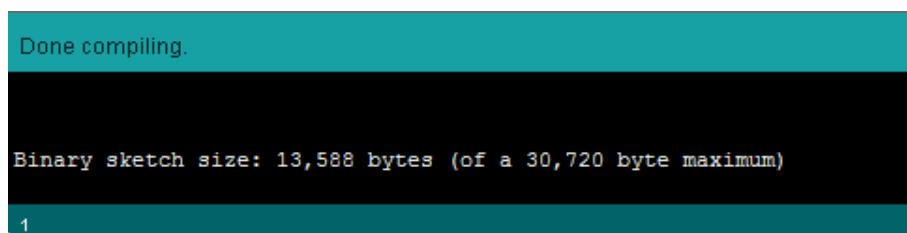

Figure 15.
9. If the C language code is correct and not found data error then information will be shown “Done compiling” and “Binary sketch size” as figure 15.